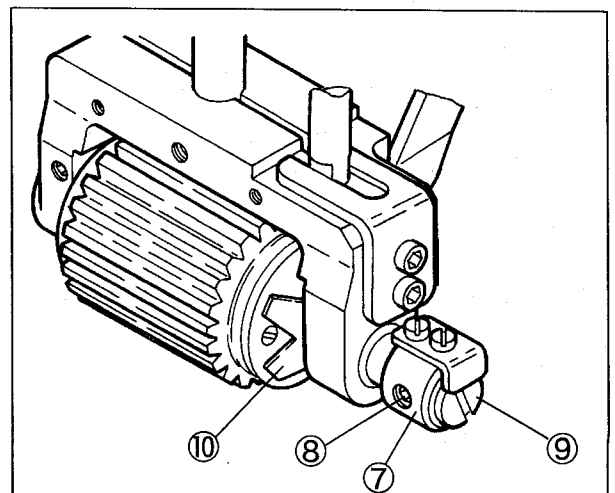

Fig. 77
- (3) Rotate the handwheel until the adjusting screw ③ comes right above. (Fig. 77)
- (4) Turn the adjusting screw ③ to adjust the feeding amount.
- (5) Tighten the screw ② with a tightening torque of 2.5 N·m securely.